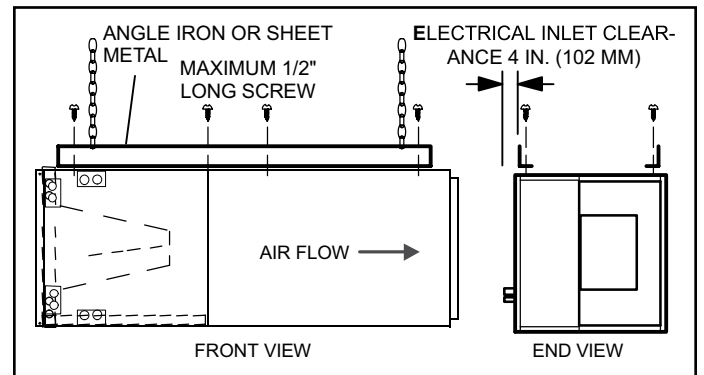

Figure 3. Suspending Horizontal Unit
5. If the unit is suspended, the entire length of the cabinet must be supported. If you use a chain or strap, use a piece of angle iron or sheet metal attached to the unit (either above or below) to support the length of the cabinet. Use securing screws no longer than 1/2 inch to avoid damaging the coil or filter. See Figure 3. Use sheet metal screws to connect the return and supply air plenums as required.
12. If suspending the unit, it must be supported along the entire length of the cabinet. If using chain or strap, use a piece of angle iron or sheet metal attached to the unit (either above or below) so that the full length of the cabinet is supported. Use securing screws no longer than 1/2" to avoid damage to coil or filter, as illustrated in Figure 3. Connect return and supply air plenums as required using sheet metal screws.
14. If suspending the unit, it must be supported along the entire length of the cabinet. If using chain or strap, use a piece of angle iron or sheet metal attached to the unit (either above or below) so that the full length of the cabinet is supported. Use securing screws no longer than 1/2" to avoid damage to coil or filter, as illustrated in Figure 3. Connect return and supply air plenums as required using sheet metal screws.